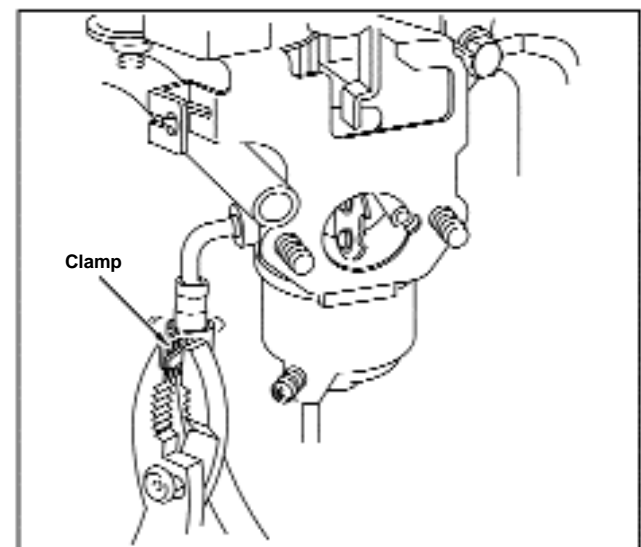

Figure 38 - Installing Fuel Hose and Clamp
11. Reconnect fuel line from fuel pump. Slide clamp into place to secure hose, Figure 38.